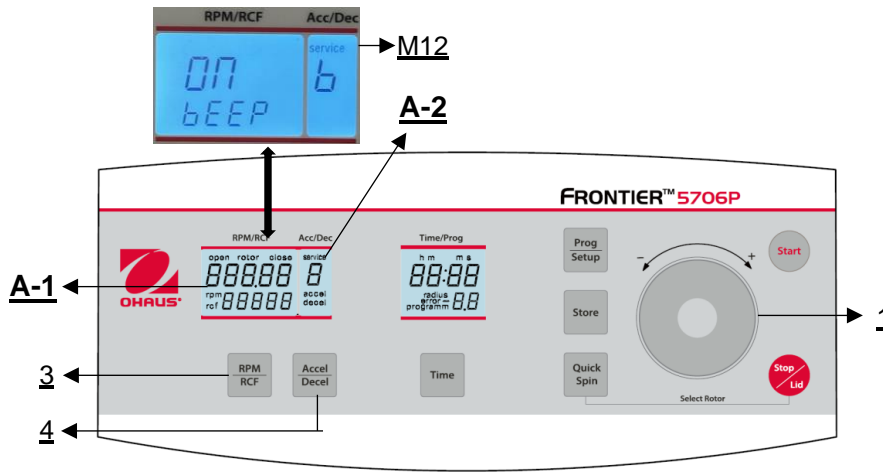

Figure 31
Proceed as described under point 4.1.1 to enter this program mode and then press the key **"Accel/Decel"** (4). In the display **"Acc/Dec"** (A-2) the word **"Service"** (M12) flashes. Now select the letter **"b"** with the touch wheel (1). As a result, in the display **"RPM | RCF"** (A-1), the word **"ON/BEEP "** appears. After pressing the key **"RPM | RCF"** (3), you can turn the keyboard sound (On) or (Off) with the touch wheel (1) (see figure 31).